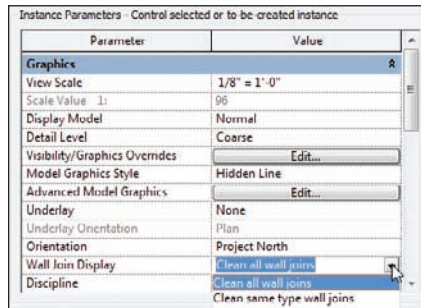

FIGURE 2.56 Choosing a Wall Join Display option in the view's properties
4. In the Properties dialog, you will see a category for Wall Join Display. It is set to Clean All Wall Joins; it is also unavailable for editing. If your view's detail level is set to Fine, the default is to clean all joins. If it is set to Coarse, as shown in Figure 2.56, you have a choice between joining the same wall types or cleaning all joins.